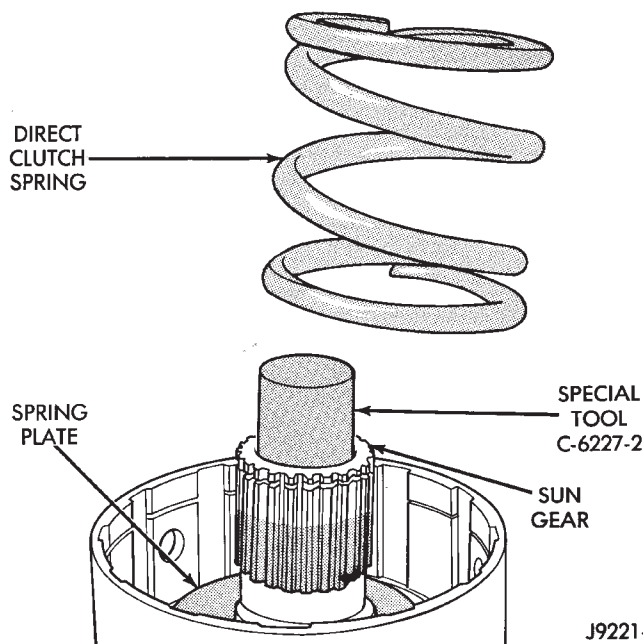

Fig. 337 Direct Clutch Spring Installation
(17) Align splines in hubs of planetary gear and overrunning clutch with Alignment Tool 6227-2 (Fig. 337). Insert tool through sun gear and into splines of both hubs. Be sure alignment tool is fully seated before proceeding.
(18) Install direct clutch spring. Be sure spring is properly seated on spring plate (Fig. 337).